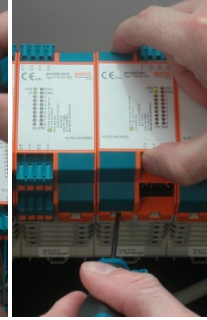

Figure 4
- Loosen the interlocking between the upper section and the lower section (fig. 4).